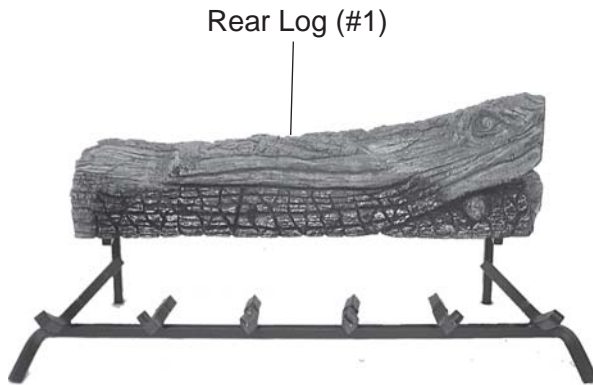

Figure 84 - Placing Rear Log (#1) on Back of Grate
2. Place Back Log #1 on back of grate. *See Figure 84.*